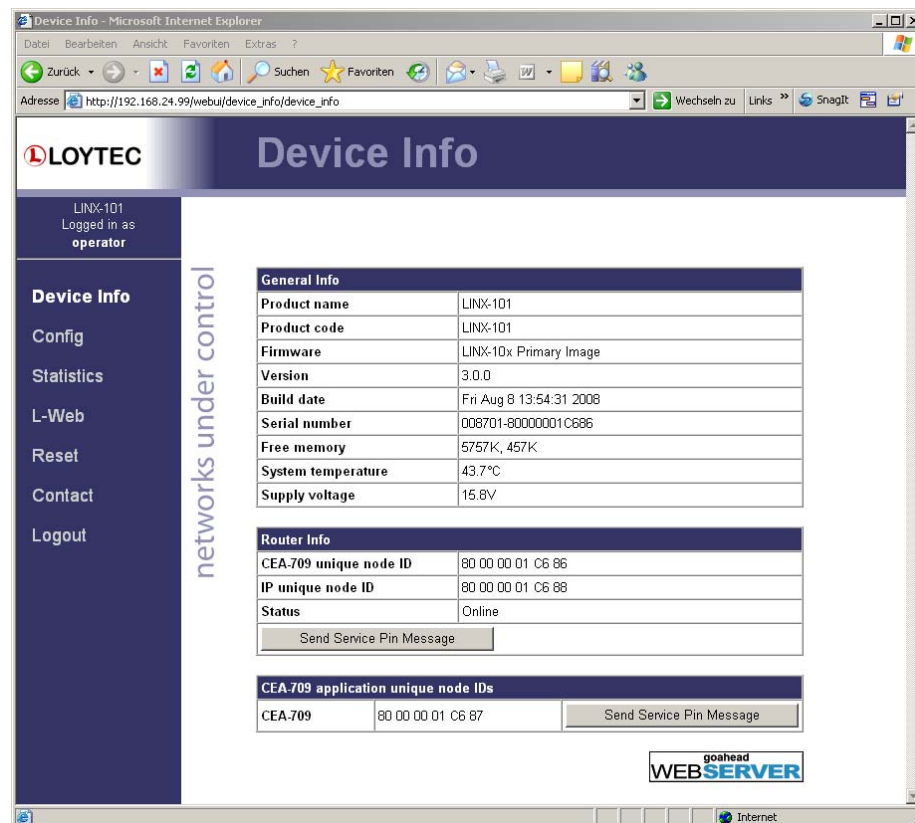

Figure 50: Device Information Page
5. The device information page should appear as shown in Figure 50.